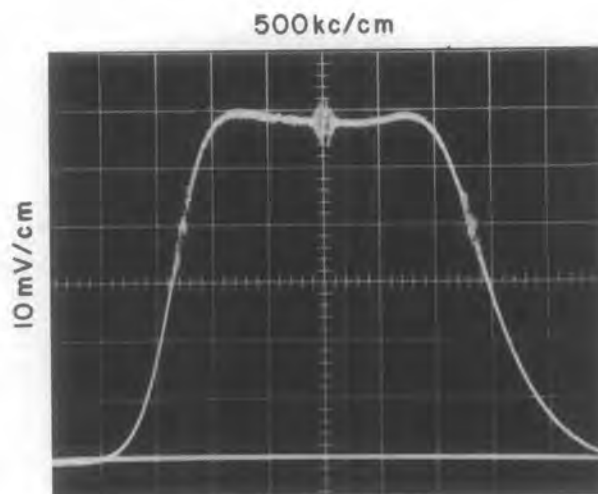

Figure 4-36. Typical Response, 2 mc IF Amplifier/30-60 mc Tuner, Composite Response
- (4) Set the output frequency of signal generator No. 1 to 20.40 mc. Throughout this procedure adjust the output level for a convenient marker size on the oscilloscope.
- (5) Set the output frequency of signal generator No. 2 to 22.40 mc. Throughout this procedure adjust the output level for a convenient marker size on the oscilloscope.
- (6) Set the power supply voltage to +4.0 V dc.
- (7) Set the receiver controls as follows:
- (8) Readjust the controls of the sweep generator to display the marker and the response on the oscilloscope.
- (9) Adjust A1L5 for a response on the oscilloscope similar to Figure 4-36.
- (10) In the order given adjust coils A7L9, A7L8, A7L6, A7L5, A7L3, and A7L2 for a response similar to Figure 4-36.
- (11) Repeat steps (9) and (10) until no further adjustments are required.